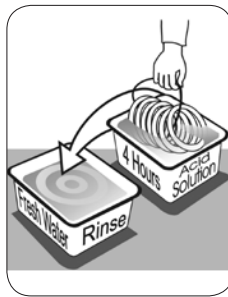

Figure 6
- Thoroughly wash the discs with fresh water and then reassemble the discs on the spine (Figure 6).